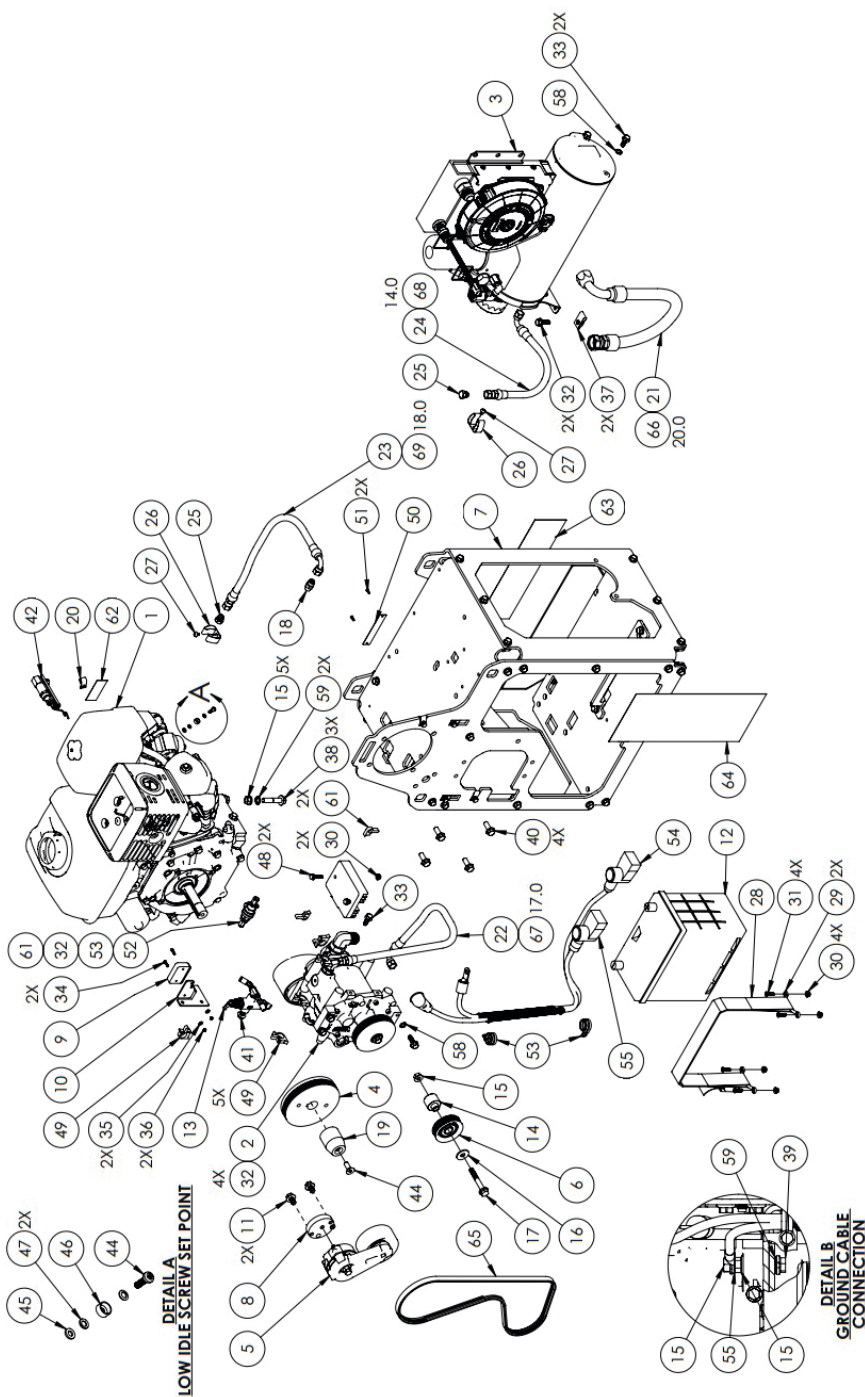

Figure 76 — Kit Pack List
1. Kit Pack List (Figure 76 on page 104)
**Items 56, 57, and 66 – 83 not shown in Figure 76 on page 104.*